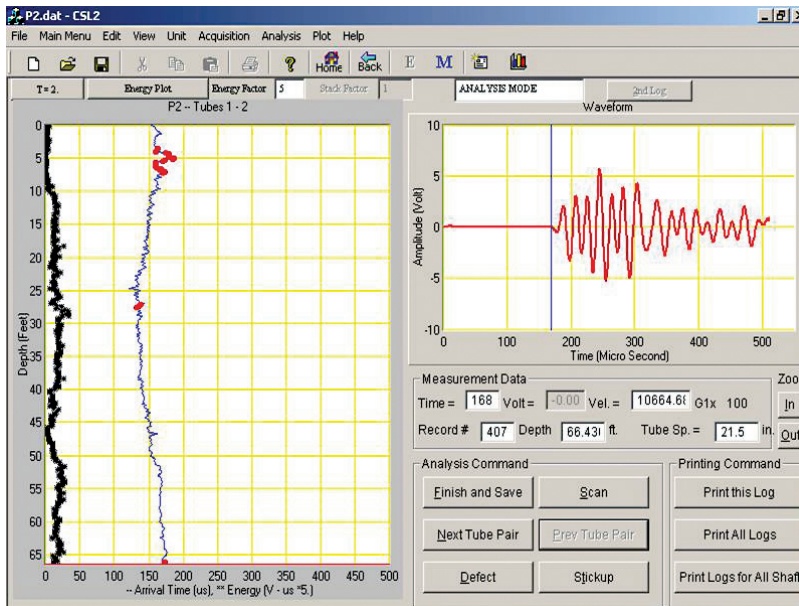

Figure 25: Energy and Time of Arrival Plot
3. Energy and FAT Plot: Alt + 3 or Plot/Log, Plot/Energy, and Time Plot (see Fig. 25)